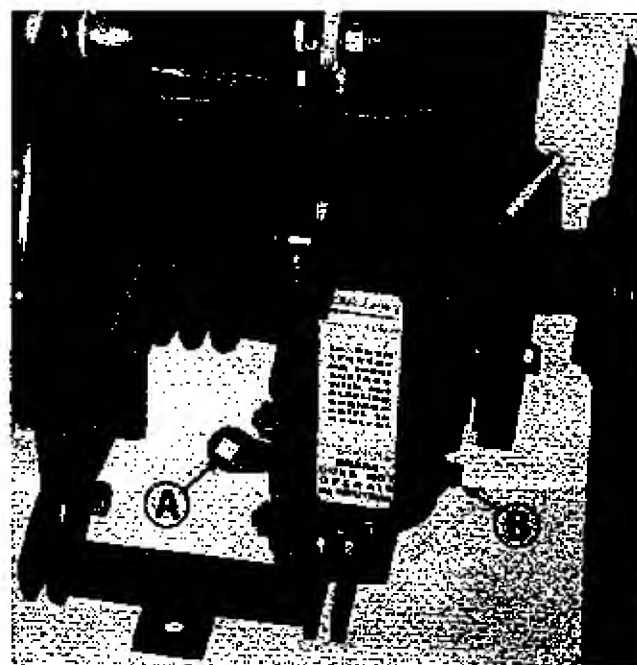

Figure 30. Rear of tractor showing axle drive housing.
1. See figure 30. Move the transmission shift lever to the **NEUTRAL** position, so the tractor will not creep forward or back when the engine is running.